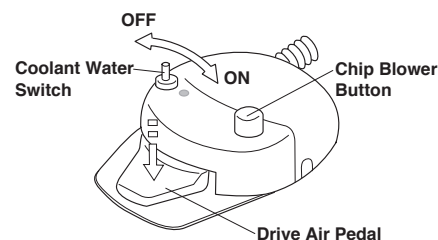

Fig.3-29 Foot Control (Type A2)
(1) Foot Control (Type A2) (Fig.3-29)